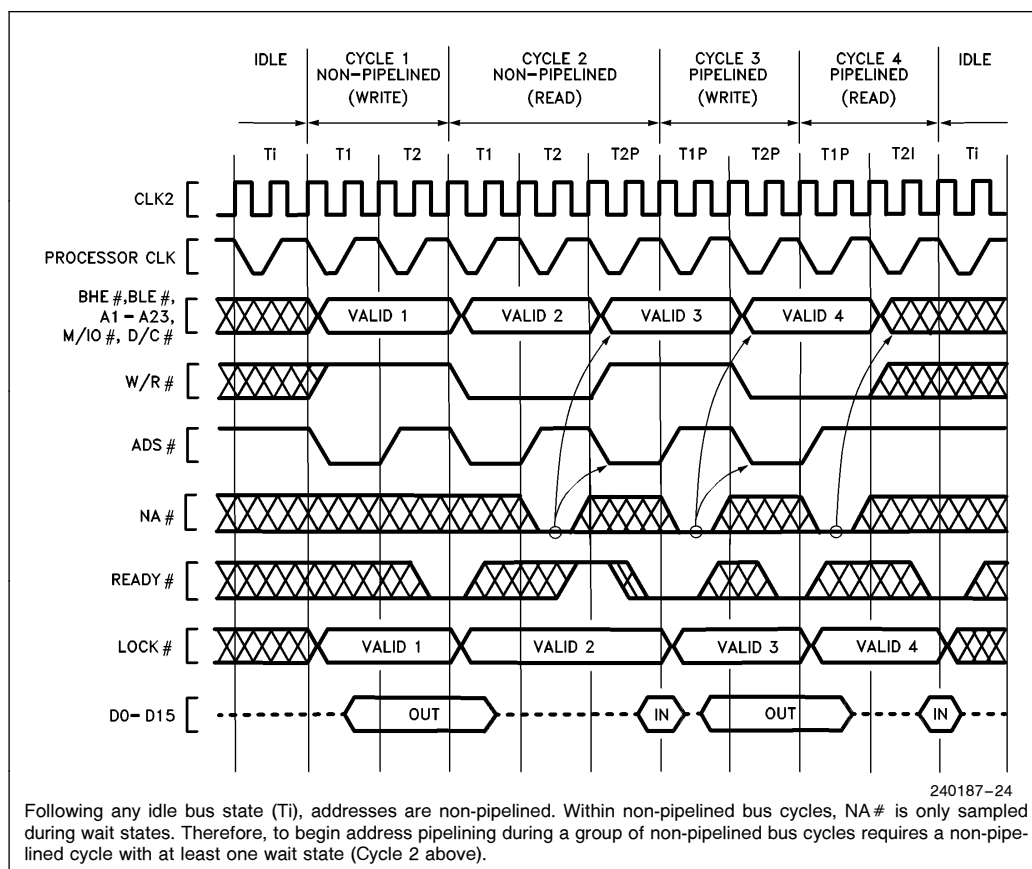

Figure 5.9. Transitioning to Pipelined Address During Burst of Bus Cycles
Once a bus cycle is in progress and the current address has been valid for at least one entire bus state, the NA# input is sampled at the end of every phase one until the bus cycle is acknowledged. During non-pipelined bus cycles NA# is sampled at the end of phase one in every T2. An example is Cycle 2 in Figure 5.9, during which NA# is sampled at the end of phase one of every T2 (it was asserted once during the first T2 and has no further effect during that bus cycle).
1. The next address may appear as early as the bus state after NA# was sampled active (see Figures 5.9 or 5.10). In that case, state T2P is entered immediately. However, when there is not an internal bus request already pending, the next address will not be available immediately after NA# is asserted and T2I is entered instead of T2P (see Figure 5.11 Cycle 3). Provided the current bus cycle isn't yet acknowledged by READY# asserted, T2P will be entered as soon as the Intel386 SX Microprocessor does drive the next address. External hardware should therefore observe the ADS# output as confirmation the next address is actually being driven on the bus.
2. Any address which is validated by a pulse on the ADS# output will remain stable on the address pins for at least two processor clock periods. The Intel386 SX Microprocessor cannot produce a new address more frequently than every two processor clock periods (see Figures 5.9, 5.10, and 5.11).
Examples of transition bus cycles are Figure 5.10 Cycle 1 and Figure 5.9 Cycle 2. Figure 5.10 shows transition during the very first cycle after an idle bus state, which is the fastest possible transition into address pipelining. Figure 5.9 Cycle 2 shows a transition cycle occurring during a burst of bus cycles. In any case, a transition cycle is the same whenever it occurs: it consists at least of T1, T2 ($NA\#$ is asserted at that time), and T2P (provided the Intel386 SX Microprocessor has an internal bus request already pending, which it almost always has). T2P states are repeated if wait states are added to the cycle.
Once a pipelined bus cycle is in progress, pipelined timing is maintained for the next cycle by asserting $NA\#$ and detecting that the Intel386 SX Microprocessor enters T2P during the current bus cycle. The current bus cycle must end in state T2P for pipelining to be maintained in the next cycle. T2P is identified by the assertion of $ADS\#$. Figures 5.9 and 5.10 however, each show pipelining ending after Cycle 4 because Cycle 4 ends in T2I. This indicates the Intel386 SX Microprocessor didn't have an internal bus request prior to the acknowledgement of Cycle 4. If a cycle ends with a T2 or T2I, the next cycle will not be pipelined.